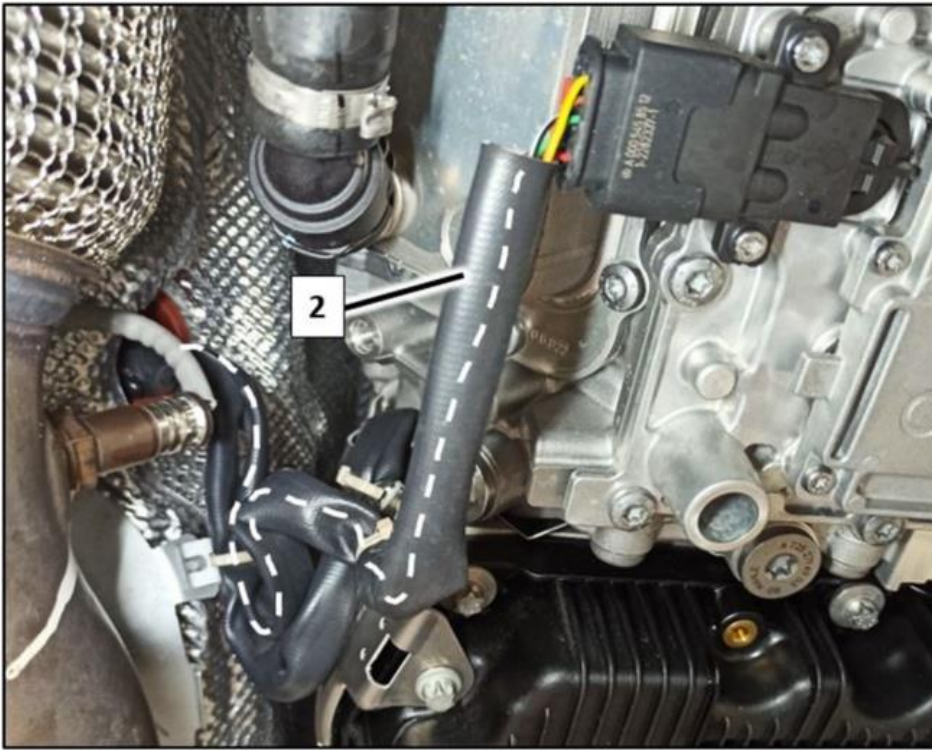

Figure 5
2. Route the electrical wiring harness (2, Figure 5) correctly as shown.
- i** The electrical wiring harness (2, Figure 5) may not be in contact at **any point!**
i If one or more of the electrical signal lines (**cable cross section 0.35 mm² or 0.75 mm²**) in the electrical wiring harness (**2, Figure 5**) are damaged:
1. Repair the affected electrical signal line (**cable cross section 0.35 mm² or 0.75 mm²**) in the electrical wiring harness (**2, Figure 5**) using a line connector.
2. Route electrical wiring harness (**2, Figure 5**) correctly as shown.
i The electrical wiring harness (**2, Figure 5**) may not be in contact at **any point!**